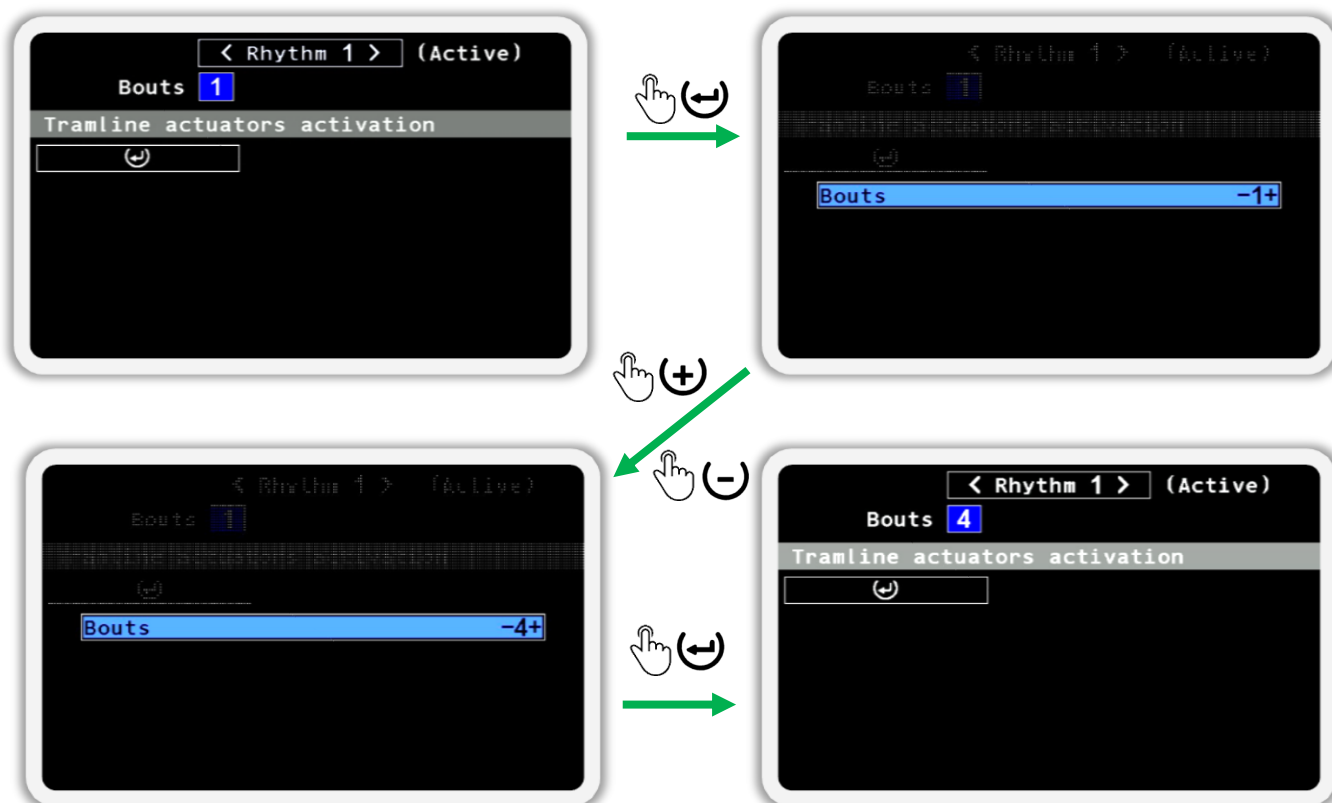

Figure 40
- Next, go to the item **Bouts 1** of setup of the number of runs in this rhythm. To do this, press the  “Down” button. After that press the  “Menu” button. In the menu that appears (see Figure 40), change the number of runs to the desired number using the  “Plus” or  “Minus” buttons and press the  “Menu” button again.